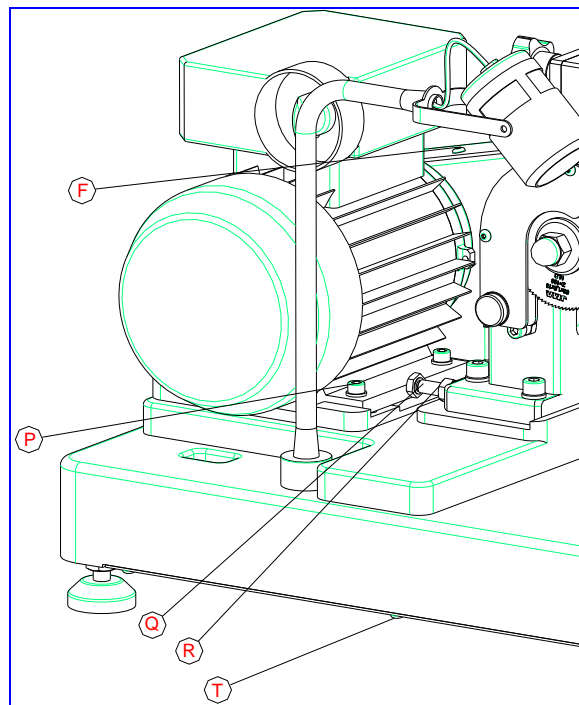

Fig.17
2. Undo the screws (T) securing the lower protection plate.
3. Undo the four screws (P) securing the motor using an allen key and a spanner.
5. To tighten the belt turn the screw (Q) which acts as a stop, moving the position of the motor to the back. Once the belt has been tightened secure the position using the locknut and tighten the four screws (P) securing the motor.
6. To replace the belt, carry out the same operations as for tightening the belt. To fit the new belts remove the belt protection cover (F). See Fig.17